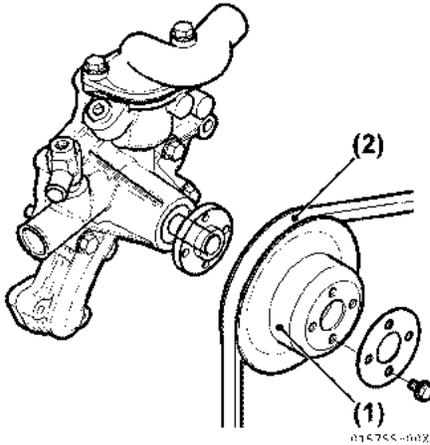

Figure 6-27
2. Remove the spacer, V-pulley (Figure 6-27, (1)) and cooling fan V-belt (Figure 6-27, (2)).